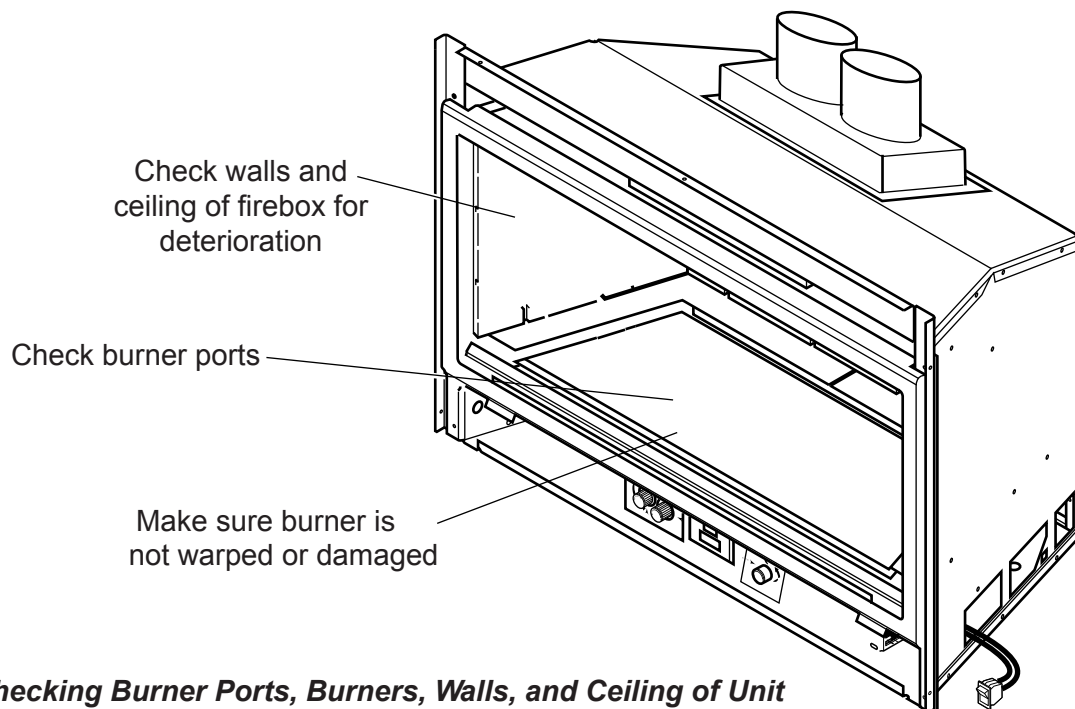

Figure 22 - Checking Burner Ports, Burners, Walls, and Ceiling of Unit
4. Clean burner and burner ports. Inspect the following. *See Figure 22:*